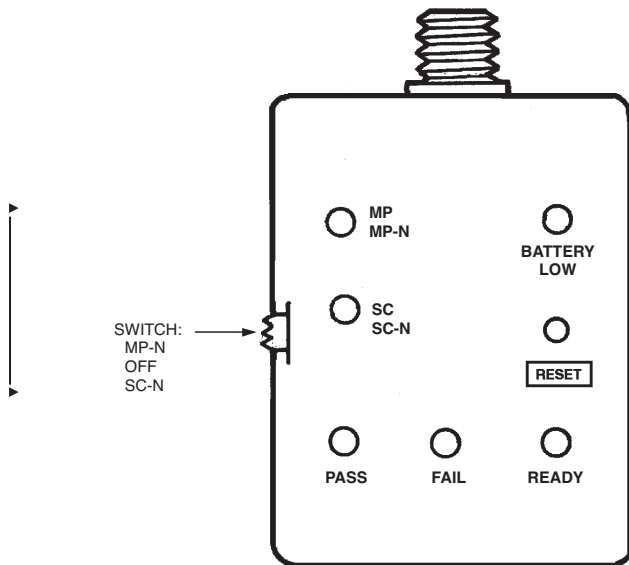

FIGURE 52
► Operation is as follows (see Figure 52):